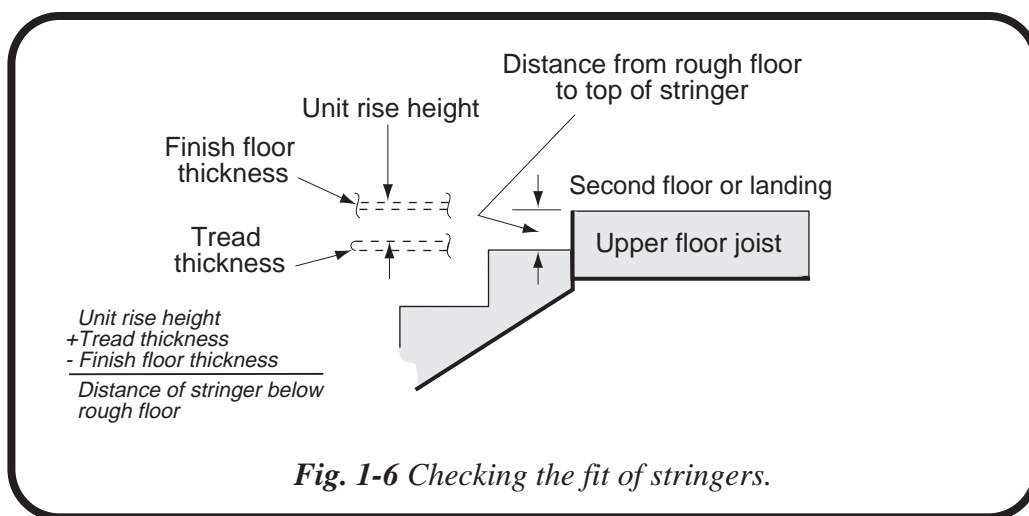

Fig. 1-6 Checking the fit of stringers.
1. Place the top of the stringer in the wellhole so that from the rough second floor framing, the distance is equal to: one unit rise plus one tread thickness minus the finished floor thickness of the second floor or landing. Please note Fig. 1-6 here.